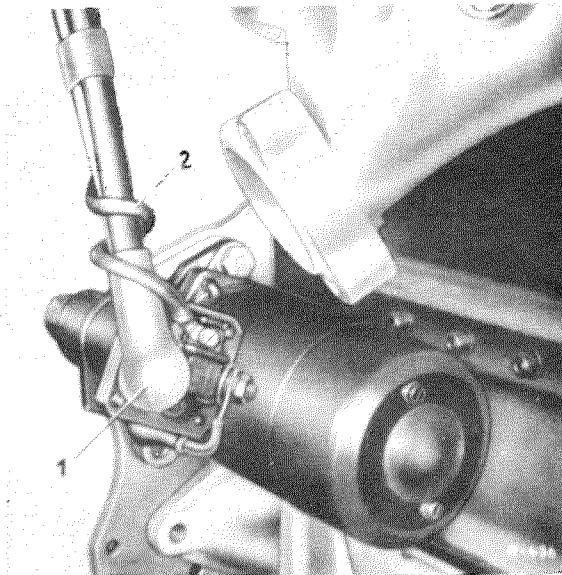

Fig. 15—1/2
10. Connect the black/red control cable (2) (Lead No. 25) by means of the slotted screw to the solenoid switch (Fig. 15—1/2).
**Note:** The black/red control cable (2) must not be passed through the rubber cover cap (1), since this might cause it to rub away its insulation against the contact terminal for battery cables 30 and 51 (Fig. 15—1/2). If this were to happen, the control cable would become alive and operate the starter. The black/red control cable must therefore be wound around cables 30 and 51 and connected direct to terminal 50.